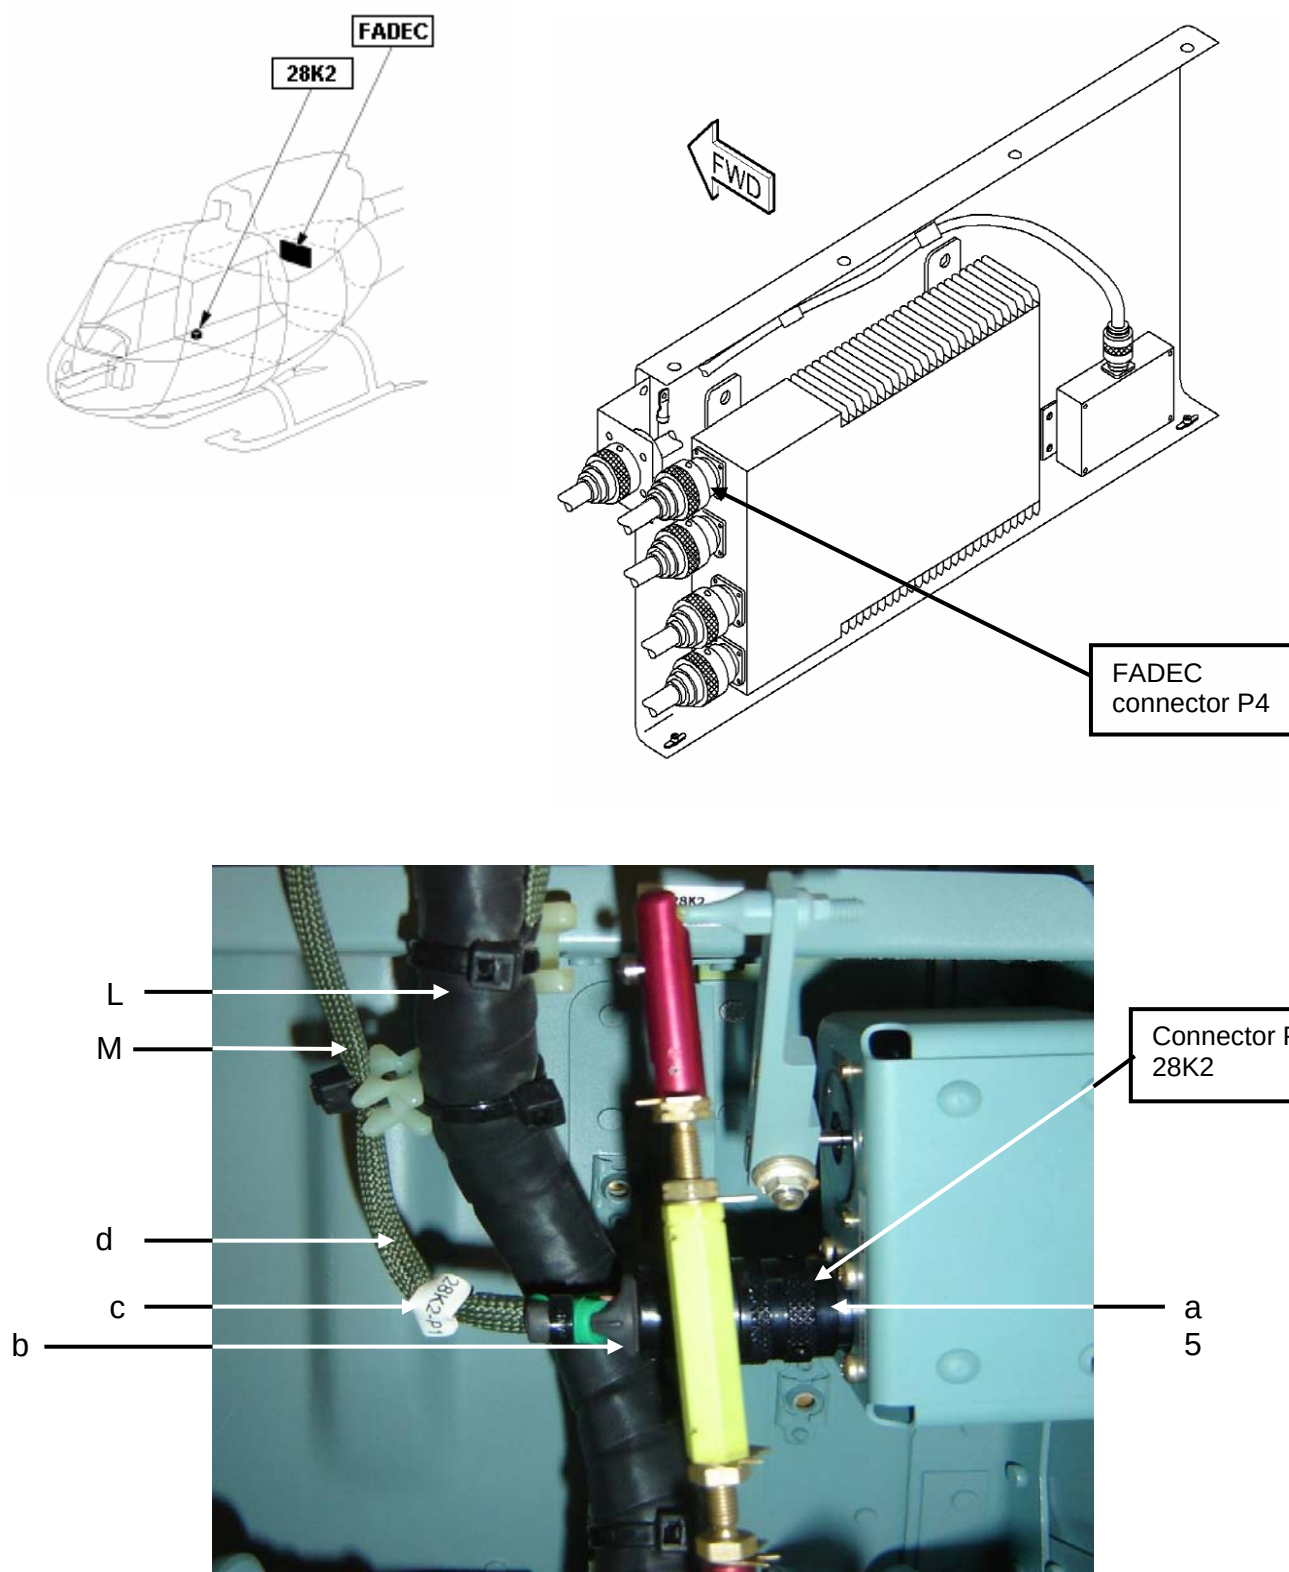
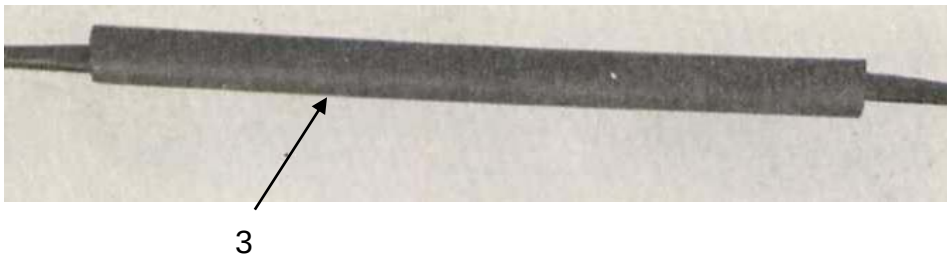

Figure 1
Figure 4
2.B.2.a. Elimination of XPC cable loops and over-length (Figures 1 and 2)
- Disconnect electrical connector P4 from the FADEC (Figure 1).
- Disconnect the electrical connector P1 from XPC anticipator (28K2) (Figure 1).
- Retain connector (a), adapter (b) and marker sleeve (c) (Figure 1).
- Fit the cable shielding (Detail G, Figure 4).
- Fit the heat-sealing braid (2) (Detail H, Figure 4).
- Shrink the heat-sealing braid (2) with a hot air generator (Detail J, Figure 4).
- Position the heat-shrinkable sheath (3) on the splice, thus insulating it from the other wiring (Detail K, Figure 4).
- Shrink heat-shrinkable sheath (3) using a hot air generator.
2.B.2.c. Installing the connector (Figure 1)